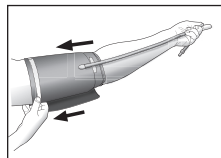

Fig. 4
The tube should follow the inside length of the arm, Fig 4.
- The Hypertension Indicator will indicate your reading range on the left display in comparison to the color bars on the face of the monitor, Fig 4. For more information see Interpreting Your Results.